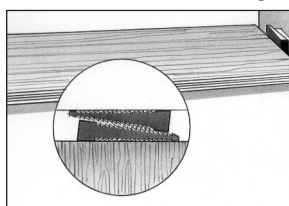

Fig. 6
5. Two tapered spacers can be used as wedges to accommodate irregular walls (Fig. 6).